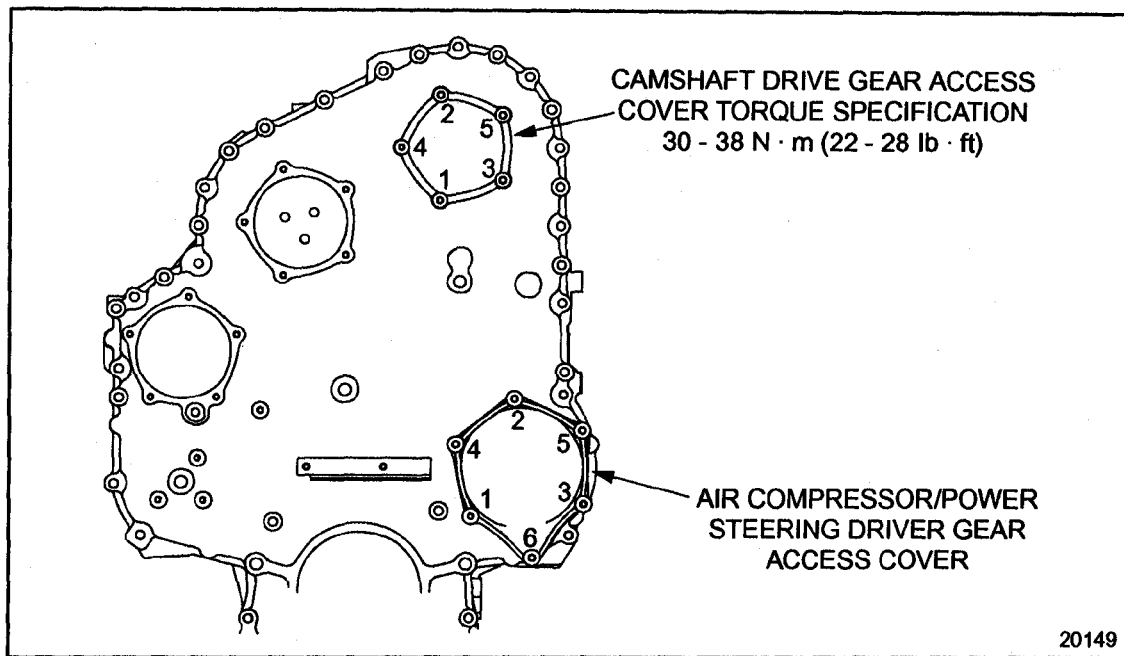

Figure 1-171 Access Cover Bolt Torque Sequences
14. Install the camshaft drive gear access cover to the gear case cover. Torque the bolts to 30-38 N·m (22-28 lb·ft), using the tightening sequence. See Figure 1-171.